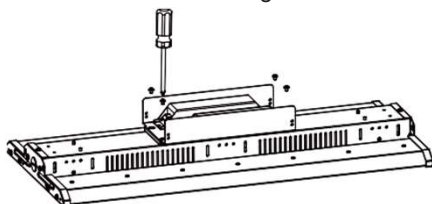

Figure 12
Step 3. Open the cover of the backup driver box, and install the backup driver on the back of fixture (Figure 12).